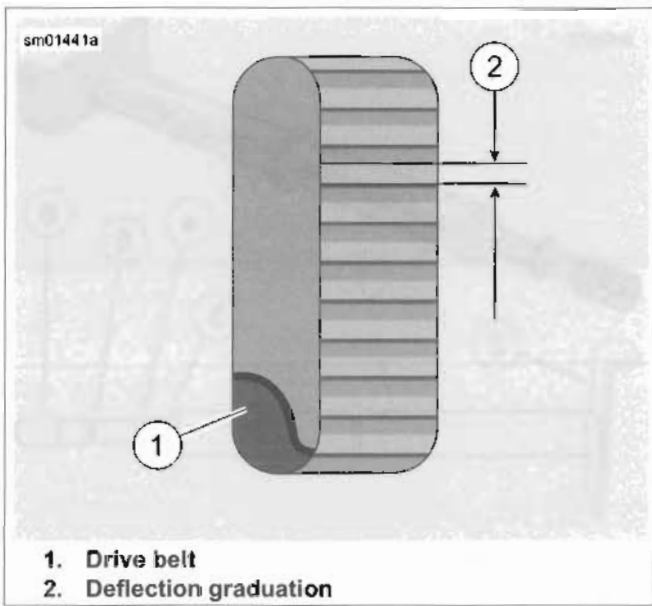

Figure 1-24. Belt Deflection Window
- a. **Models equipped with belt deflection window:** See Figure 1-24. Measure belt deflection as viewed through belt deflection viewing window while holding gauge steady. Each deflection graduation is approximately 1/16 in (1.59 mm).